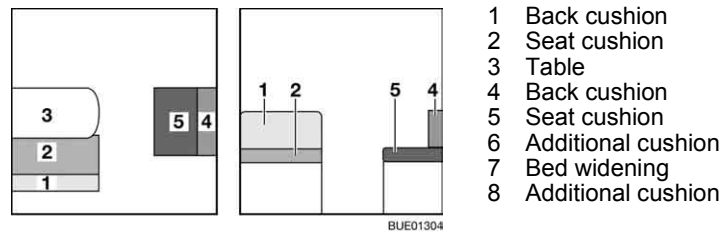

Fig. 132 Prior to conversion
- Convert the table (Fig. 132,3) to a bed foundation (see section 6.11).
- Remove the back cushion (Fig. 132,1) and lay it aside.